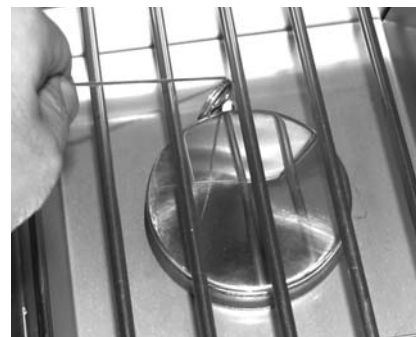

Fig. 9-2 - Manual lighting
2. Insert either a burning long-barrel butane lighter, a burning long-stem match, or a burning match held by a wire extension holder through the cooking grid opening to the burner (Fig. 9-2). Hold the flame against the edge of the burner.
4. If the burner does not light, **immediately depress the knob and turn the valve to OFF. WAIT FIVE (5) MINUTES** before repeating steps 2 through 4 of the **MANUAL LIGHTING** instructions.